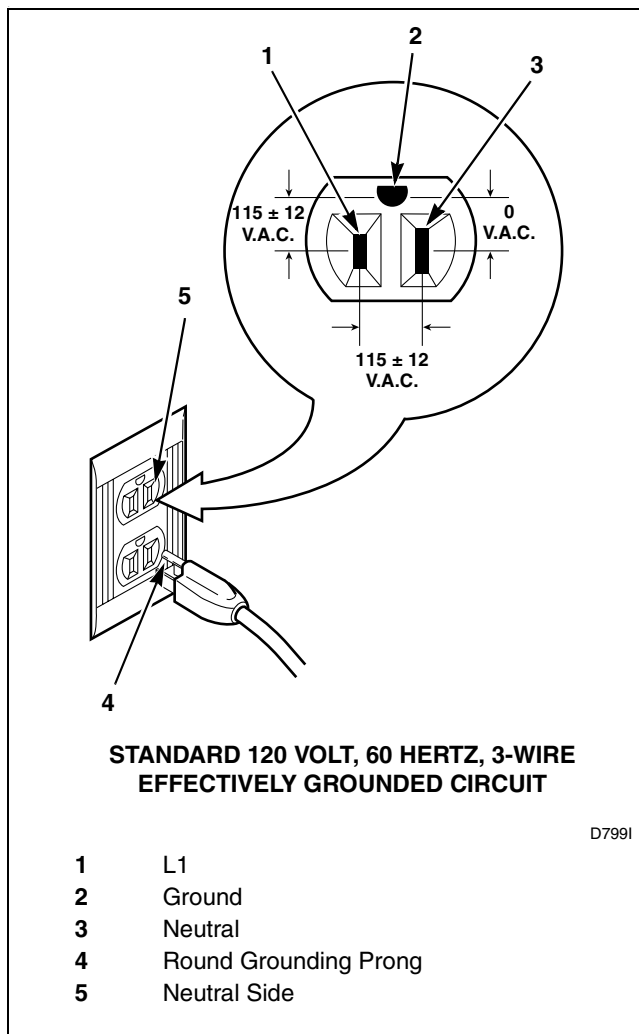

Figure 19
- The three-prong grounding plug on the power cord should be plugged directly into a polarized three-slot effectively grounded receptacle rated 120 Volts AC (alternating current) 15 Amps. Refer to *Figure 19* to determine correct polarity of the wall receptacle.